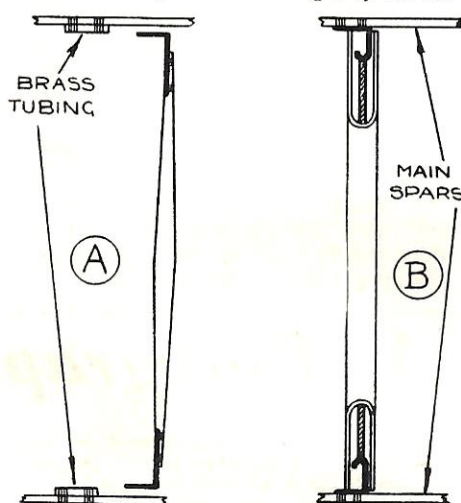
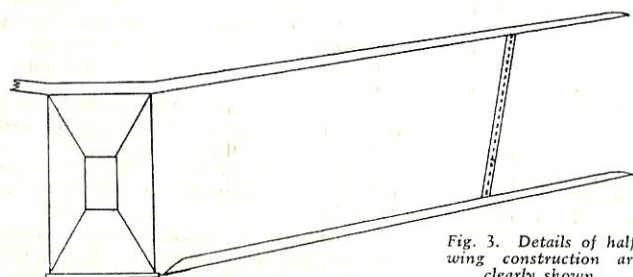

Fig. 2. Two methods of making inter-plane struts which add to the rigidity of trim.
Fig. 3. Details of half-wing construction are clearly shown.
the machine is assembled. These struts may take various forms, and two suggestions are shown in Fig. 2. The drawing marked (A) shows a simple bamboo strut, to the ends of which pieces of piano wire, bent at a right-angle, are bound and cemented. The projecting wire "spikes" are located in small pieces of fine brass tubing, which are bound to the leading and trailing edges of the wings.
A very successful method of wing fixing may be achieved in the following way. A stiff upper wing is constructed in exactly the same manner as for a high-wing monoplane, and may be fixed to the fuselage with the usual rubber bands. The lower wing is not made in one piece, but each "half-wing" is constructed separately. At the roots of each "half-wing" short pieces of piano wire are bound to the leading and trailing edges, so that a short piece of the wire is left to protrude to form spikes. These locate into pieces of fine brass tubing, which are bound and cemented across the lower fuselage longerons at the appropriate points. Hollow paper inter-plane struts, as illustrated in Fig. 2, are now affixed, so that the lower wings depend from the top wings, which have been made exceptionally stiff to withstand this. Fig. 3 will convey the idea. A feature of this method is that the dihedral angle of the lower planes may be readily altered by lengthening or shortening the inter-plane struts.
To keep to scale as much as possible the size of the fin had been kept to a minimum, and at the lower speed of 18 m.p.h. there was a tendency to "yaw." This was cured by increasing the fin area by about 30 per cent; the new fin being as shown in Fig. 3.